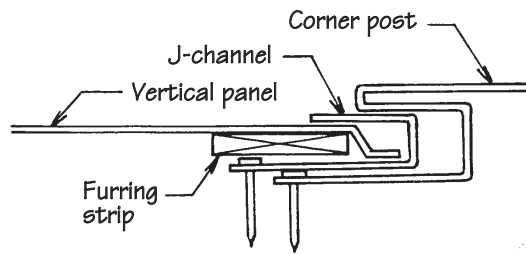

Figure 60.
- If the panel is cut in the bottom of the V-groove, insert it into the J-channel. A furring strip should be provided prior to panel insertion. This will prevent the panel from detaching (Fig. 60).